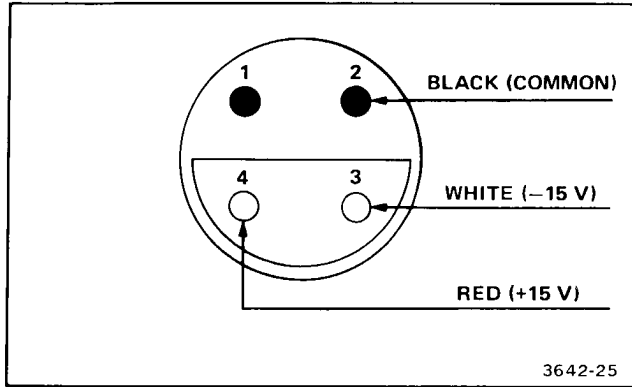

Figure 5-6. Input power connector pins.
6. Unsolder the three power supply wires from the input power connector (see Figure 5-6).